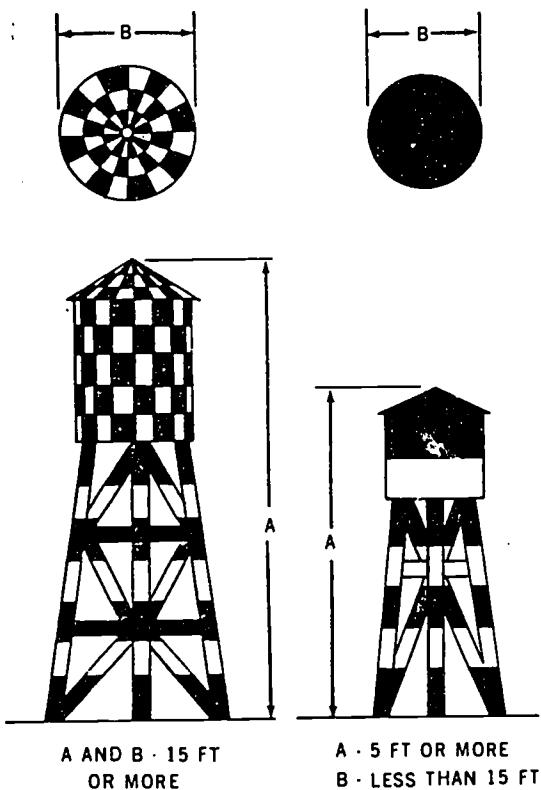

Figure 57. Marking water towers and similar obstructions.
and white. The widths of the orange and white bands shall be equal and the width of each band shall be approximately one-seventh the length of the major axis of the object, provided that each band shall have a width of not more than 40 feet nor less than 1½ feet. The bands shall be perpendicular to the major axis of the obstruction. The bands at the extremities of the object shall be orange. Figures 57, 58, and 59 illustrate the application of this requirement.
c. Checkerboard Pattern. Objects with essentially unbroken surfaces, the projection of which on any vertical plane is 15 feet or more in both dimensions, shall be colored to show a checkerboard pattern of alternate rectangles of aviation surface orange and white. The rectangles shall be not less than 5 feet and not more than 20 feet on a side, the corner rectangles being orange. Figures 57 and 58 illustrate the application of this requirement.